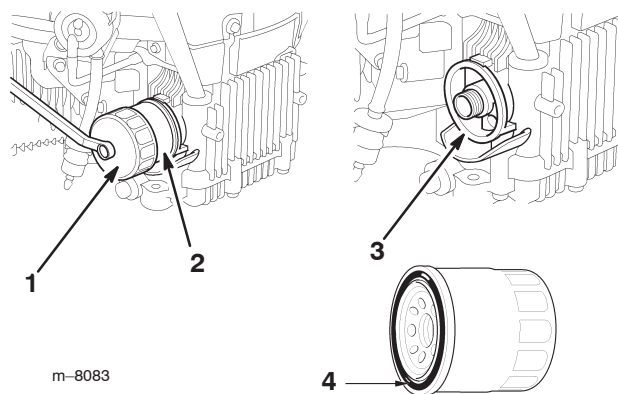

Figure 18
9. Change the oil filter, if necessary (Fig. 18).
2. Remove the old filter using an oil filter wrench. Wipe the filter mounting base surface clean (Fig. 18).
3. Apply a thin coat of clean oil to the rubber seal on the replacement filter (Fig. 18).
4. Install the replacement oil filter to the filter base by hand. Turn the oil filter clockwise until the rubber gasket contacts the filter adapter; then tighten the filter an additional 7/8 turn (Fig. 18). Oil Filter torque: 15-17 lb (20-24 N·m)